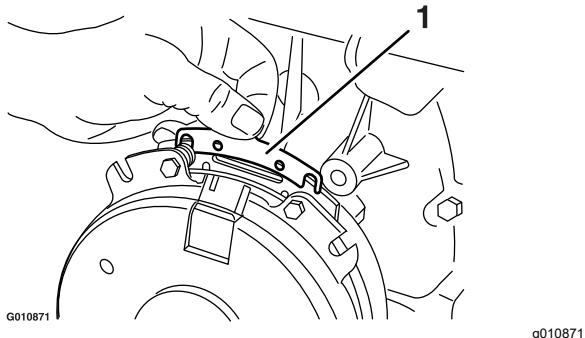

Figure 90
B. Using needle-nose pliers, or by hand, hold the tab and remove the shim (Figure 90).
Remove any buildup of grass, dirt, or other debris from the engine screen. This helps ensure adequate cooling and correct engine speed and reduces the possibility of overheating and mechanical damage to the engine (Figure 90).